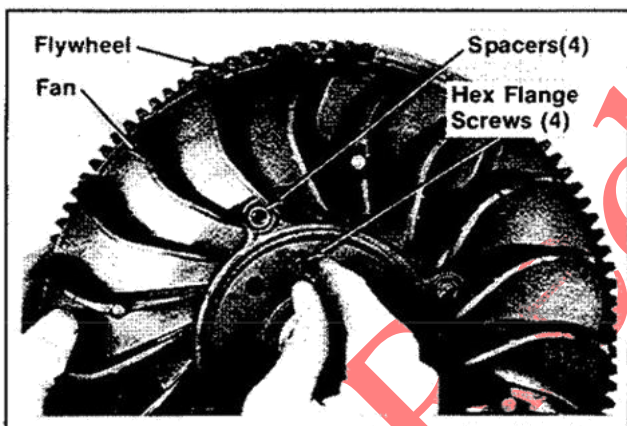

Figure 9-24. Removing Fan From Flywheel.
4. If necessary remove the hex flange screws, spacers, and fan. Refer to Figure 9-24.